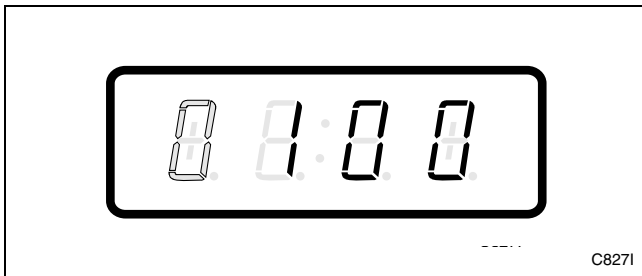

Figure 37
6. Press the START (enter) keypad to enter the fifth digit and display remaining four digits. The active digit will flash one second on and one second off. Refer to *Figure 37*.